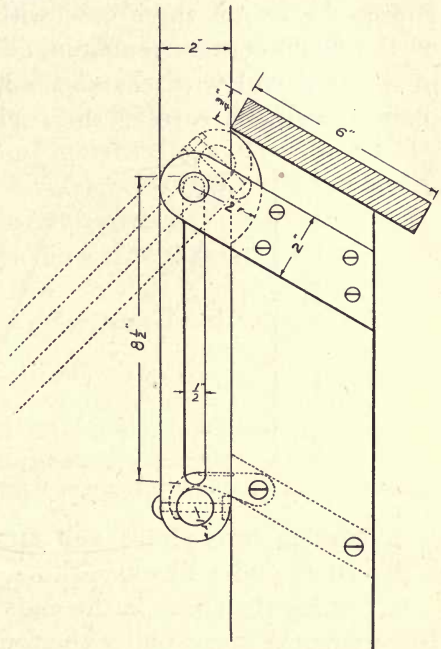

FIG. 78.—DETAIL AT TOP OF STEP LADDER.
6. **Cutting the curve in the ends of the side pieces.** — In cutting the curve under the top step, lay a side piece on the bench and place a block against the edge near the acute angle of the top of the piece. Gauge a line 1" from the edge of the block that rests against the side piece and set the compass at 2"; scribe an arc similar to the one in the detailed drawing, Fig. 78. Saw this out with a keyhole saw and smooth with sandpaper.